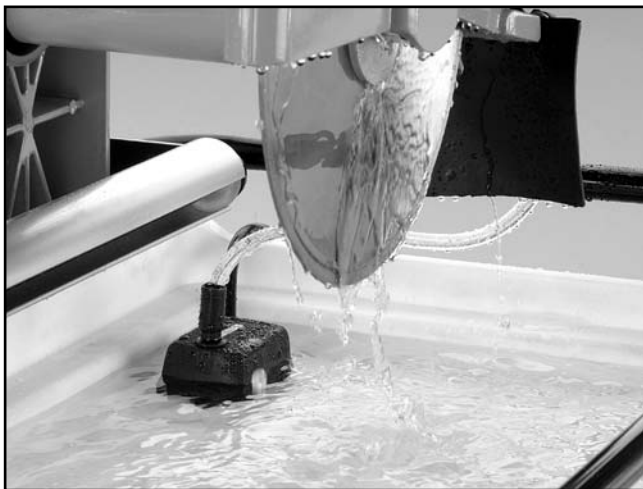

Figure 19. Filled water reservoir.
3. Fill the water reservoir with enough water to completely cover the suction inlet on the pump as shown in **Figure 19**. DO NOT over-fill the reservoir.